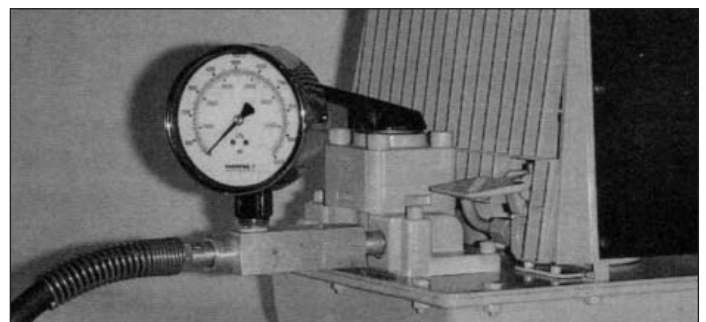

Figure 1 - Gauge Installation
1. Apply sealant to threads on pressure gauge, NPT hose fitting, and gauge adaptor. Make connections as shown in Figure 1.